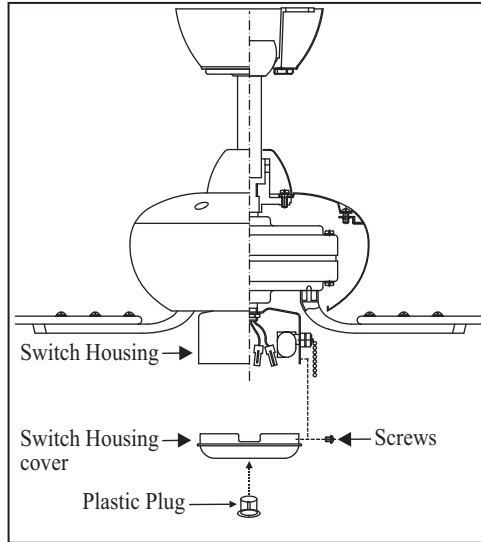

Figure 16
2. Attach the plastic plug to the switch housing cover. (Fig. 16)
3. Holding the switch housing cover under your fan, snap together the wire connection plugs. (Fig. 16)
4. Install the switch housing cover to the switch housing with screws provided. (Fig. 16)